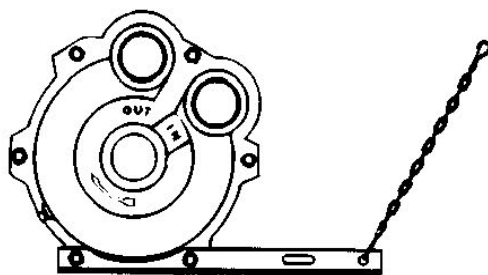

Figure 3. Torque bar and chain assembly, installed
6. To keep pump from rotating with PTO shaft, use a torque bar and chain assembly 33680 (Fig. 3). Bolt bar to pump, using two adjacent flange bolts. Snap one end of chain to the torque bar and the other end to a stationary part of the tractor. Mount the torque bar so the counter force will raise up on the pump and help relieve the side pressure due to weight of the pump